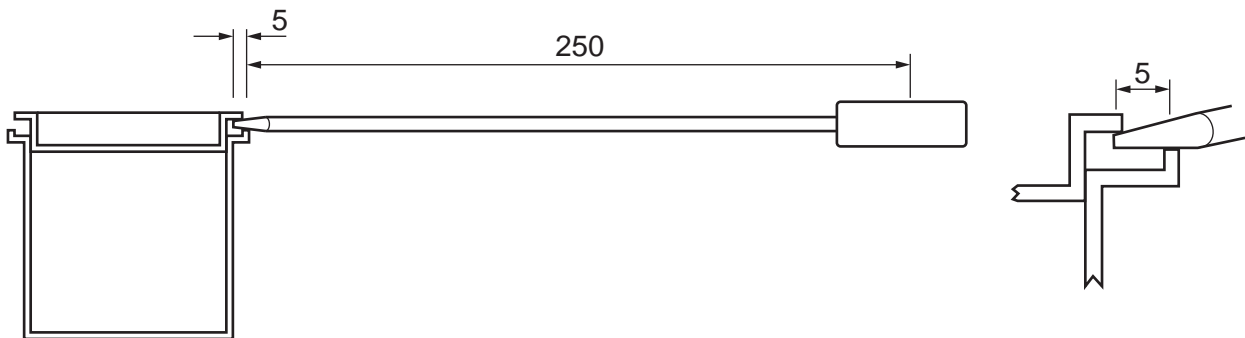

Fig. 4
- 5 Fig. 4 shows details of a paint tin lid being opened with a screwdriver.
- (b) Fig. 4 can be used as a worked example to explain the term *mechanical advantage*. Use a diagram and appropriate calculations to explain the term *velocity ratio*. [6]